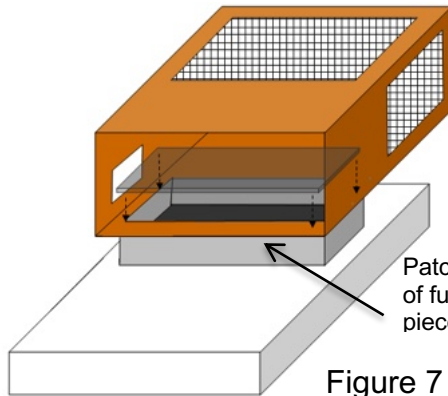

Figure 7
4. Plug 4 x 14" or 6 x 14" hole in bottom of furnace with sheet metal blank and seal with high temperature tape (see figure 7).